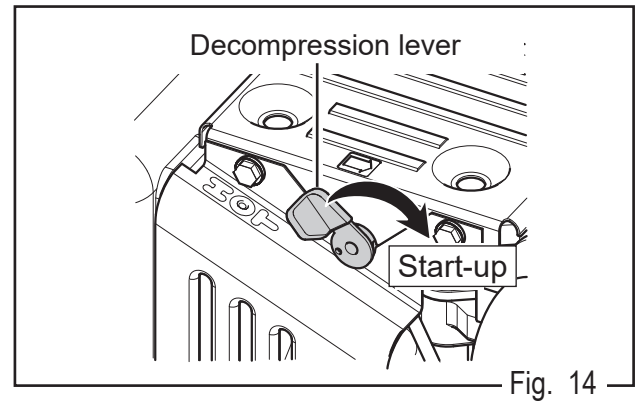

Fig. 14
d. Push down the engine decompression lever to the start position..(Fig.14)